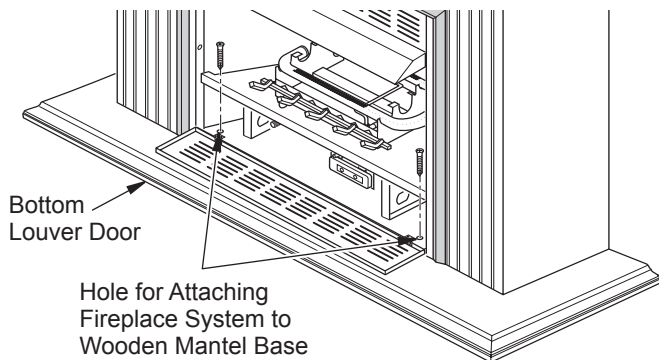

Figure 14 - Attaching Fireplace to Mantel and Mantel Base
6. **Fireplace with louver door:** Lower bottom louver door. Use two screws provided in hardware package and attach fireplace to wooden base (see Figure 14). Close louver door
4. **Fireplace with louver door:** Lower bottom louver door. Use two screws provided in hardware package and attach fireplace to wooden base (see Figure 14). Close louver door